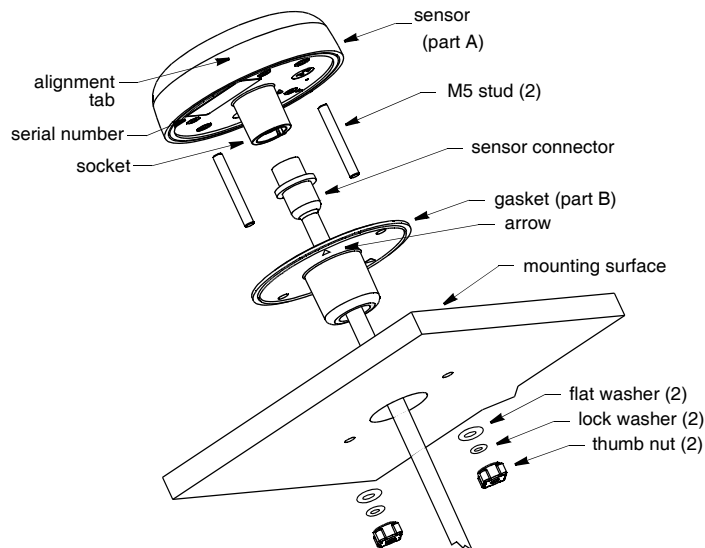

Figure 4. Flush mount
1. Remove the label from over the sensor's socket (part A) (see Figure 4).
2. Strip 60 mm (2-1/2") of the outer jacket and foil shielding from the cut end of the cable (see Figure 4).